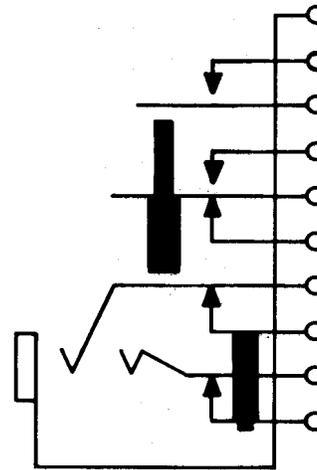

Fig. 17—515A or C Jack
2.14 515A and C: The 515A and C are single-mounted jacks (Fig. 17).